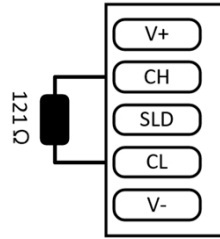

Fig.5-6-2 Terminal Resistance Connection
**Note:** The power interface on the CANopen adapter needs to be separately connected to the DC24V power supply, and the two terminal modules needs to add with the terminal resistance in the network. The connection of the terminal resistance is shown in Fig. 5-6-2 below.